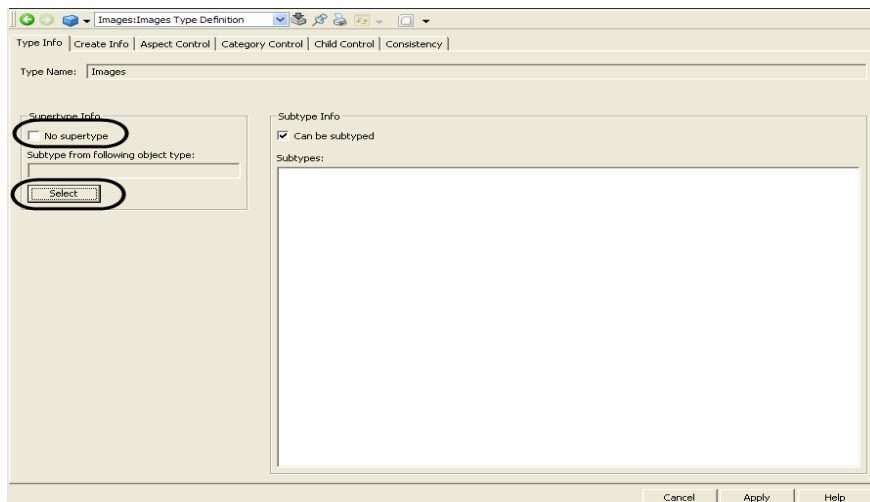

Figure 277. Type Definition settings
4. Clear the **No supertype** check box and click **Select** as shown in Figure 277. The **Select Object Type** dialog appears.